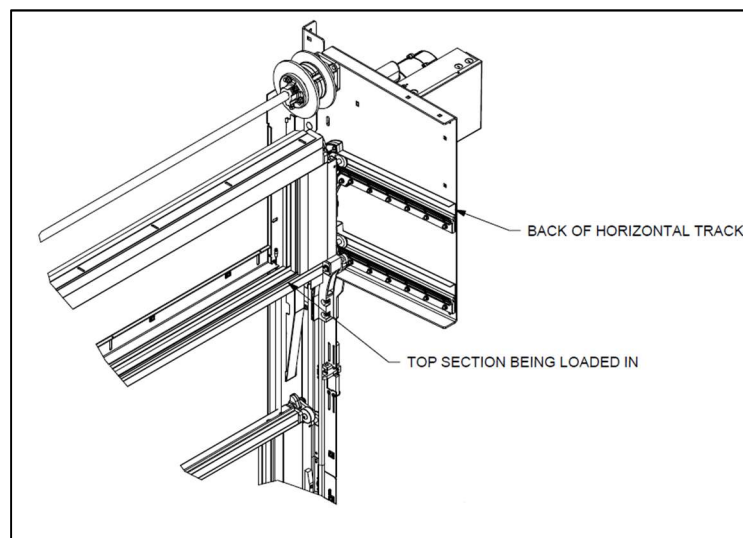

Figure 27– LOADING THE TOP SECTION INTO THE MAGAZINE
73. Carefully load any remaining intermediate sections followed by the top section, through the back of the bracket assembly and in to the horizontal track (see **Figure 27**).